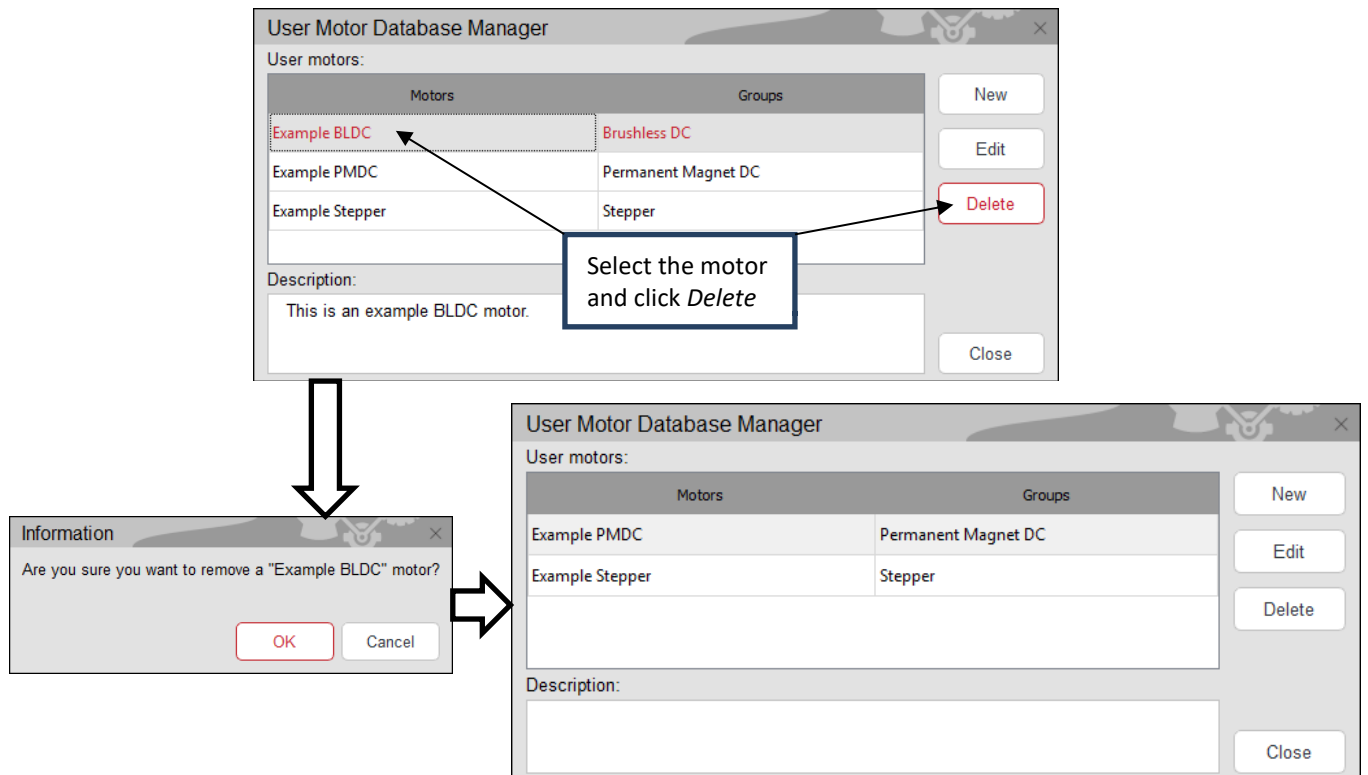

Figure 67: Delete Motor
- Open the *User Motor Database Manager* window and select the motor to be deleted and click *Delete*. Click *OK* in the information window as shown in Figure 67. This will delete the selected motor from the user motor database.